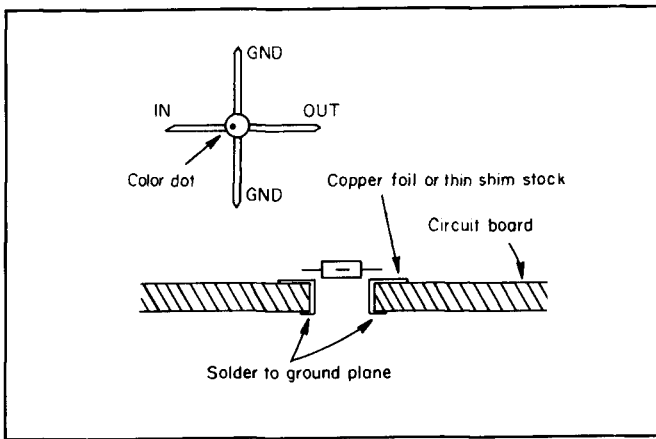

Fig 7—Mounting details for the MMICs.
**Fig 5—Parts-placement guide for the 3456-MHz transverter (not shown actual size). All components mount on the etched side of the board. Feedthrough grounds, indicated by circles, must be installed and soldered top and bottom; see text. See Fig 7 for mounting details for U1-U8.**
Through-the-board wires are required to tie components to ground, as shown on the parts layout. Tiny brass rivets can be used if you have them available, but I used no. 18 bus wire with good results. The ground leads of the MMICs are grounded to a small piece of copper foil under each lead. The foil is wrapped through a clearance hole under each MMIC lead and soldered to the ground plane below (see Fig 7). The cold end of the 50-ohm chip resistor (R1) on the LO power divider should be grounded in a similar fashion.